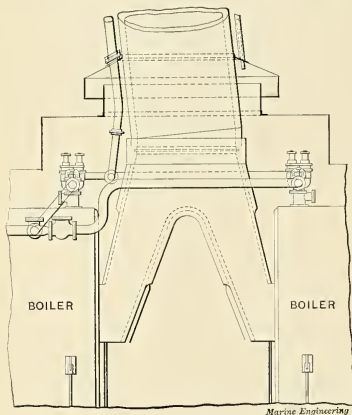
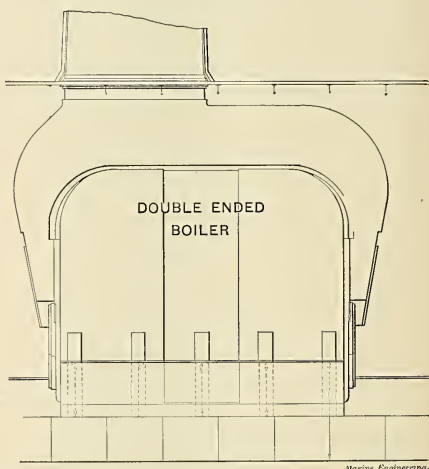

FIG. 5.
FIG. 6.
**Front Connections and Funnel.**—After leaving the tubes at the front end the gases and smoke must be guided to the base of the funnel. This is done by the front connections or smoke boxes and uptakes, as shown in the sketches. Fig. 5 shows the connection made between two single ended boilers and one funnel, used in common by both. The boilers are placed front to front in an athwartship fire room. Fig. 6 shows the connections between one double ended boiler and the smoke pipe. These connections are formed of sheet metal riveted up in two or more thicknesses with an air space or non-conducting material between. The term *front connection* refers more especially to that part of the passage directly in front of the tubes. This is provided with doors swinging upward to allow examination, cleaning and repair of the tubes. A swinging damper is often